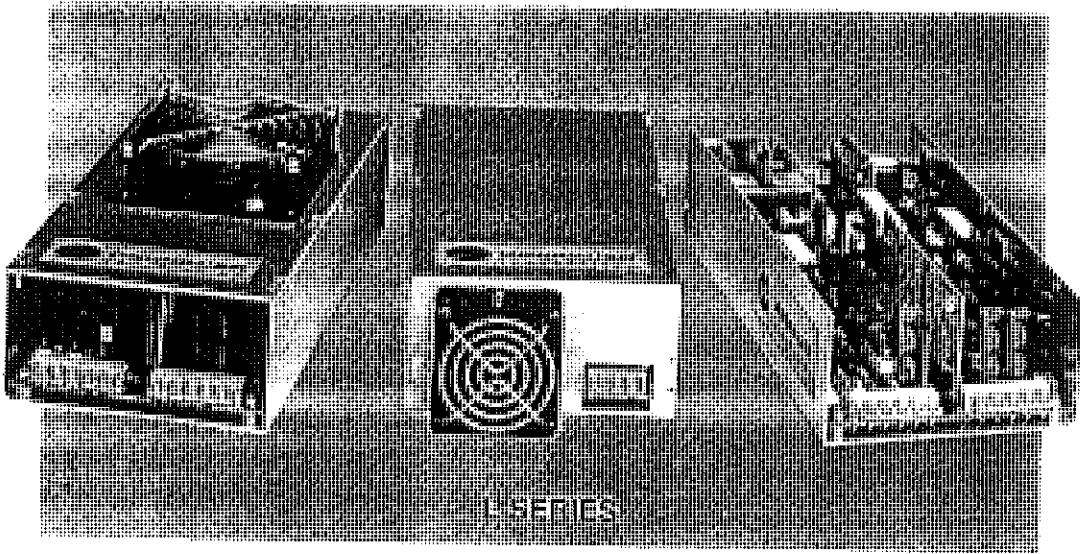
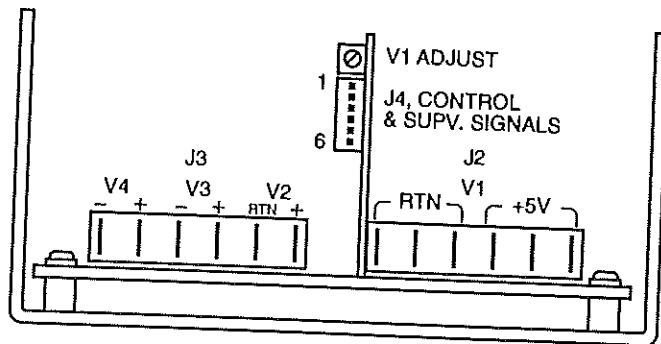

Figure 1. Three Versions of L Series: Top Fan, End Fan and Open Frame.
Figure 4. L Series Front View.
- 1.2 The L Series switching power supplies feature 375 watts output power in a compact size with power factor correction. See Figs. 1 and 2.
- 6.1 The front panel view of the L Series is shown in Fig. 4. The case types are designated as follows and shown in Figs. 1 and 2:
Top-Mounted Fan with Cover (Option M)	Cooling fan and cover are mounted on top of power supply. See Figs. 1 and 5.
Rear-Mounted Fan with Cover (Option N)	With this option the power supply has a cover and the fan is mounted at the rear of the case. See Figs. 1 and 5.
9.2 **Outputs.** The output power connections are made to LMI quick-connect tab terminals. See Fig. 4. For the main output V1, the three right terminals are all +5V and the three left ones are the return.
- 9.7 **Output Voltage Adjustment.** The main output voltage is independently adjustable by means of a potentiometer located above J4 and is adjustable over $\pm 5\%$. See Fig. 4. No output should be continuously operated beyond its current rating or power rating, and the total output power of all outputs must not exceed the maximum rating of the power supply. See the table in Section 7.2.
The connections for the control and supervisory signals are shown in Fig. 4. Following are the pin designations: